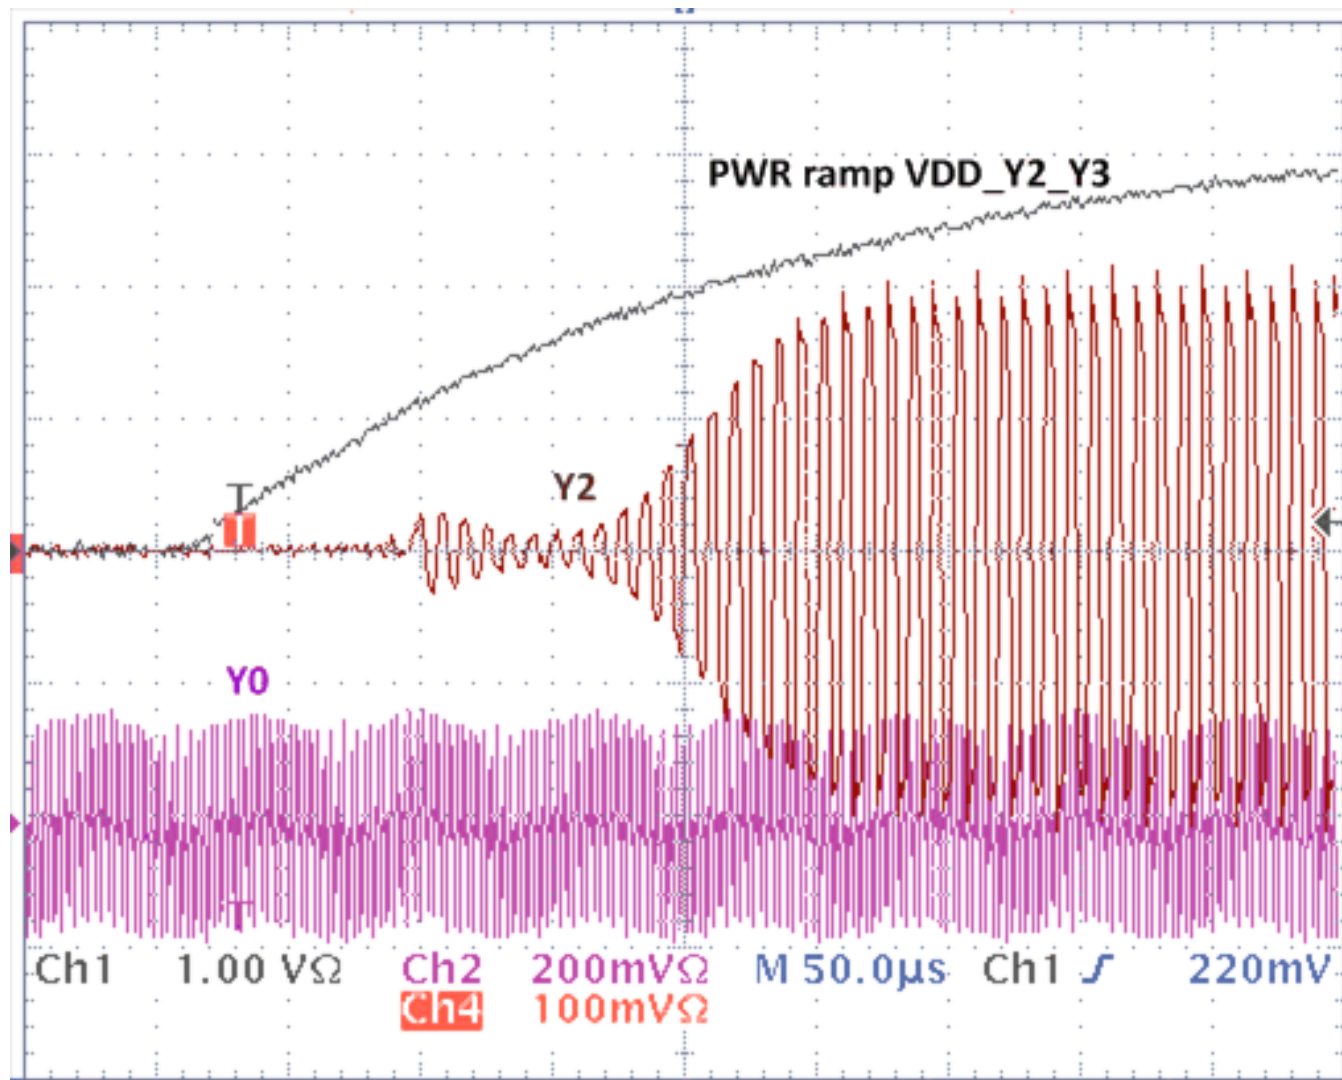

Figure 48. Sequencing the Output Turn-on Through Sequencing the Output Supplies. Output Y2 Powers Up While Output Y0 is Already Running.
2. **Output Power supply domain control:** An even easier scheme might be to connect the clock output power supply VDD_Yx to the corresponding DSP input clock supply domain. In this case, the CDCM6208V2G output will remain disabled until the DSP rails ramps up as well. Figure 48 shows the turn-on behavior.